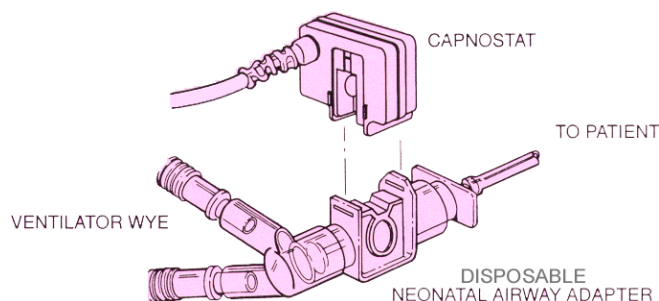

Figure 4
4. When using the Neonatal/Pediatric Airway Adapter, place the Capnostat[®] /Airway Adapter assembly at the proximal end of the airway circuit between the endotracheal tube and the ventilator circuit wye. Position the airway adapter with its windows in a vertical, NOT a horizontal, position. This helps keep patient secretions from "pooling" on the windows. If pooling does occur, the airway adapter may be removed from the circuit, rinsed with water and reinserted into the circuit. To prevent moisture from draining into the airway adapter, do NOT place the airway adapter in a gravity dependent position (see Figure 4).